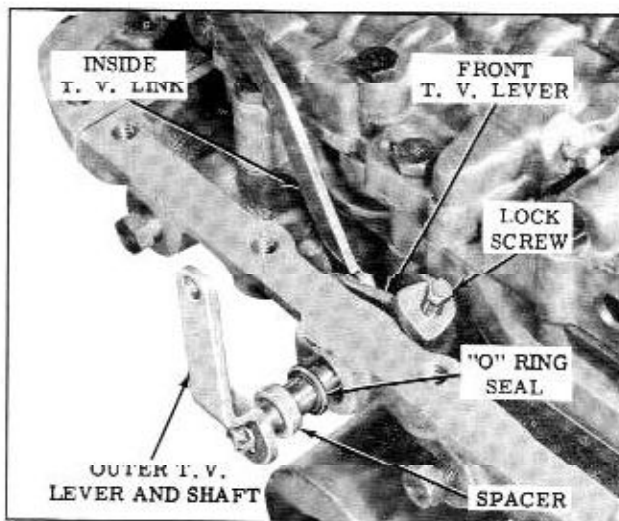

Fig. 3-28 Removing Outer T.V. Lever "O" Ring
8. Remove outer T.V. lever, "O" ring and spacer as shown. (Fig. 3-28)